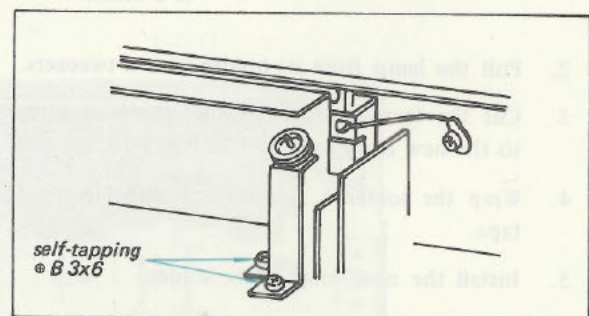

Fig. 2-15. Dial pulley bracket removal
2. Remove the two self-tapping screws (\oplus B 3x6) securing the dial pulley bracket to the chassis as shown in Fig. 2-15.